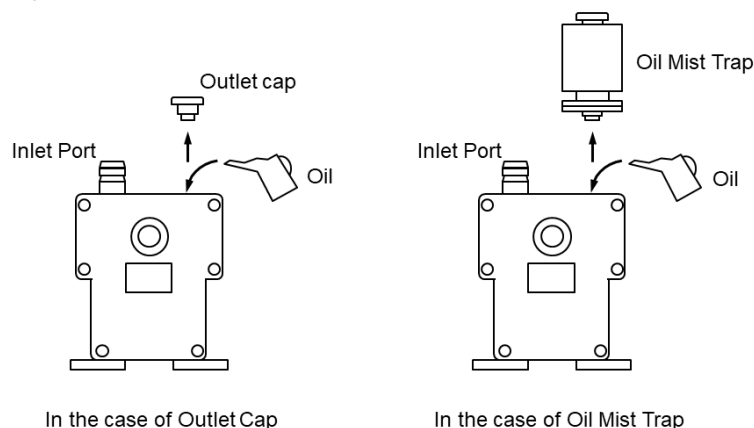

Fig. 12 Oil filling
- 1) Remove the outlet-cap or oil mist trap. [Fig.12] and make sure that oil drain plug is closed.